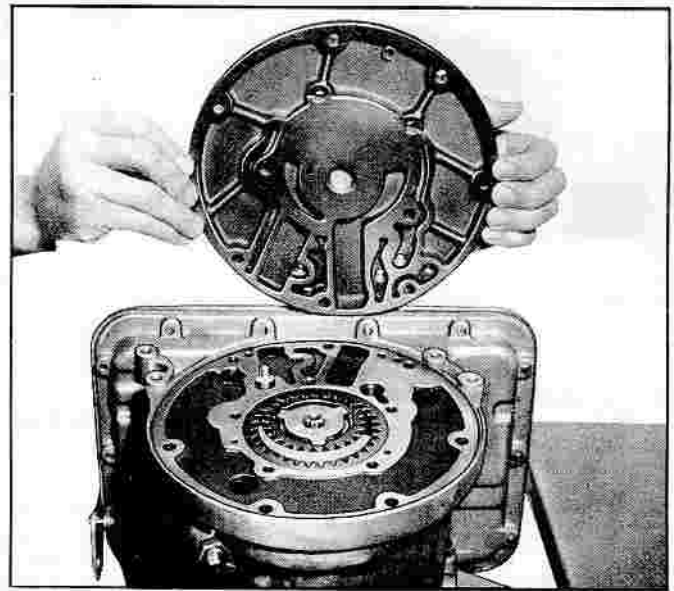

Fig. 7E-20—Removing Front Pump Cover
15. Remove the rear pump and reverse piston assembly (fig. 7E-28) by pulling forward with a twisting action.